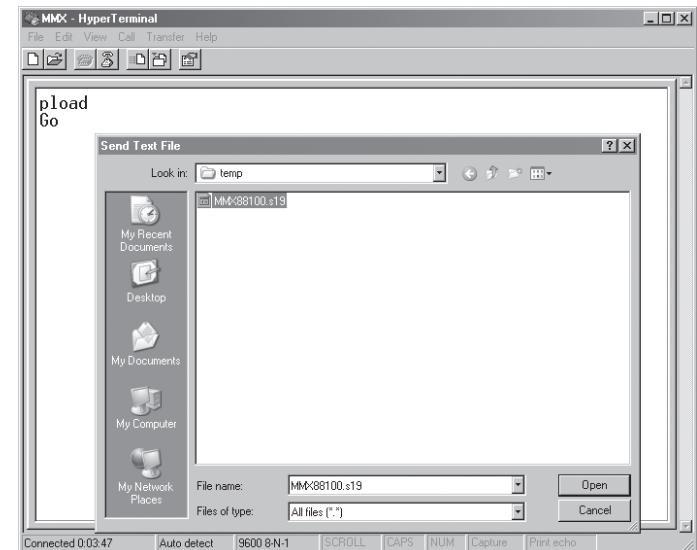

Figure 3-3 — Select the firmware upgrade file
6. Navigate to the folder where you saved the firmware upgrade file. Select the file (figure 3-3).